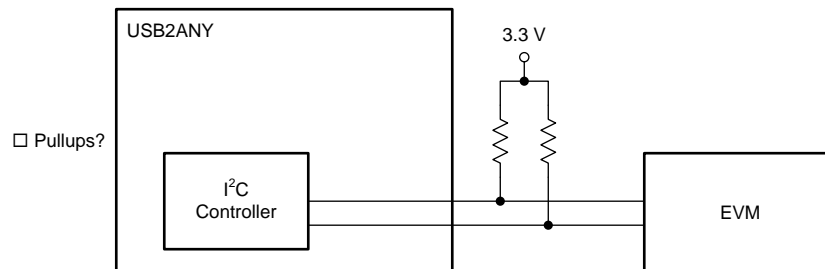

Figure 12. I²C Bus External Pullup Connection
- Uncheck the *Pullups?* checkbox if there are I²C pullup resistors somewhere else in your system (refer to Figure 12).
NOTE: The external pullup resistors (if used) must be connected to 3.3 V (Figure 12). Pullup voltages lower than 3.3 V can cause incorrect operation. Pullup voltages higher than 3.3 V can damage the USB2ANY interface adapter.